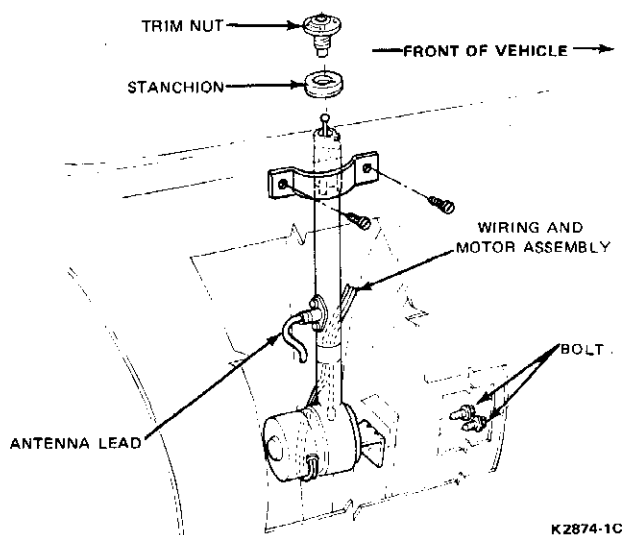

FIG. 1 Power Antenna Installation—Continental Mark V
2. Remove the lower bracket attaching screws (Fig. 1).